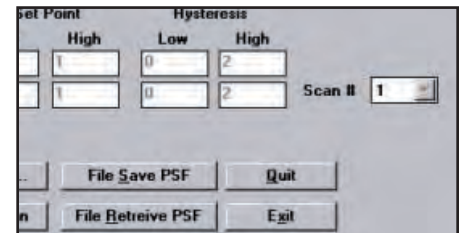

Figure 5-23. Scan # (PSF Configuration Screen)
**Scan #** Provides another way, in addition to hysteresis settings, to smooth output response. Outputs are updated only after the selected number of identical (within the hysteresis limits) scans. The menu allows selection of from 1 to 9 scans. For discrete outputs, the scan analysis value must stay either inside or outside the hysteresis limits for all of the selected number of consecutive scans, in order for the output to respond. See Figure 5-23.
**Trigger:** can be used to gate a second control module when Continuous Scan Method is also used. When the control module is in straight scanning mode, **Trigger Channel Number** defines the beam number during a scan at which the trigger output will occur (Figure 5-23). The Trigger output is a 100 microsecond (0.0001 sec.) pulse. If the control module is set for single or double edge scan, the **Trigger** pulse will come at the end of the scan (**Trigger Channel Number** will be ignored).